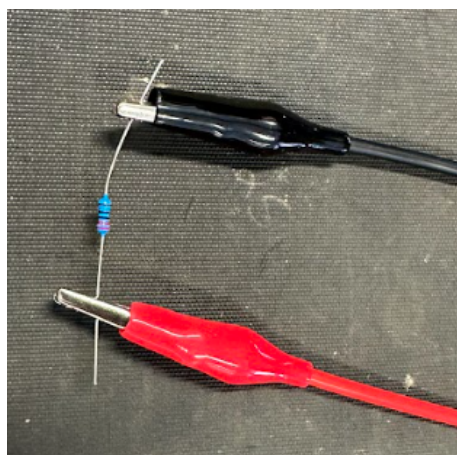

Figure 19: Resistor held with croc-clips.
- Hold the resistors one by one in the croc-clip to measure their values Figure 19.